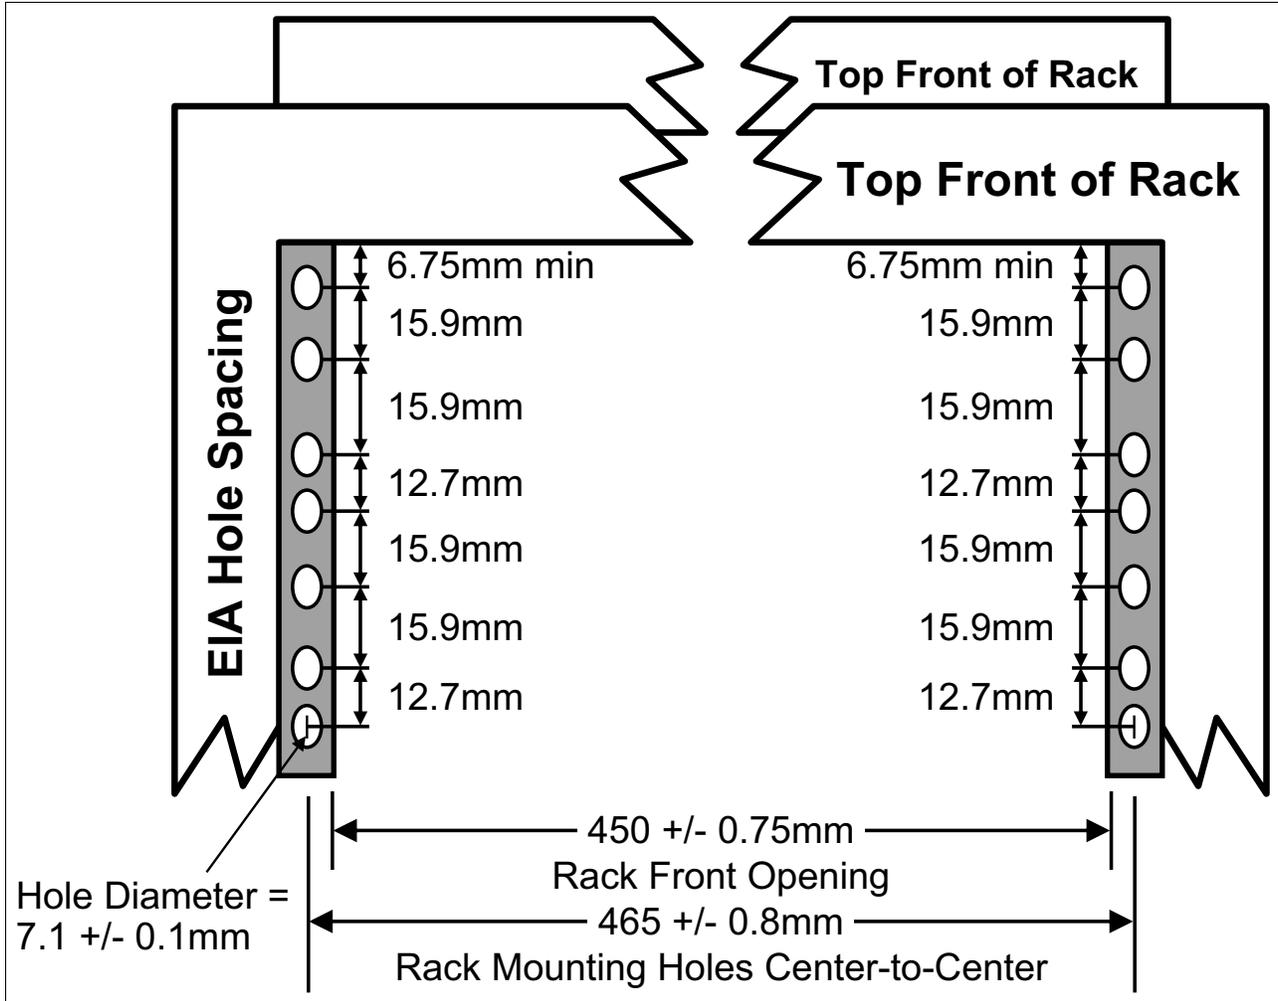

Figure A-3 Rack specification dimensions top front view
- ▶ The vertical distance between the mounting holes must consist of sets of three holes spaced (from bottom to top) 15.9 mm (0.625 in.), 15.9 mm (0.625 in.), and 12.67 mm (0.5 in.) on-center, which makes each three-hole set of vertical hole spacing 44.45 mm (1.75 in.) apart on center. Rail-mounting holes must be 7.1 mm ± 0.1 mm (0.28 in. ± 0.004 in.) in diameter. Figure A-3 shows the top front specification dimensions.